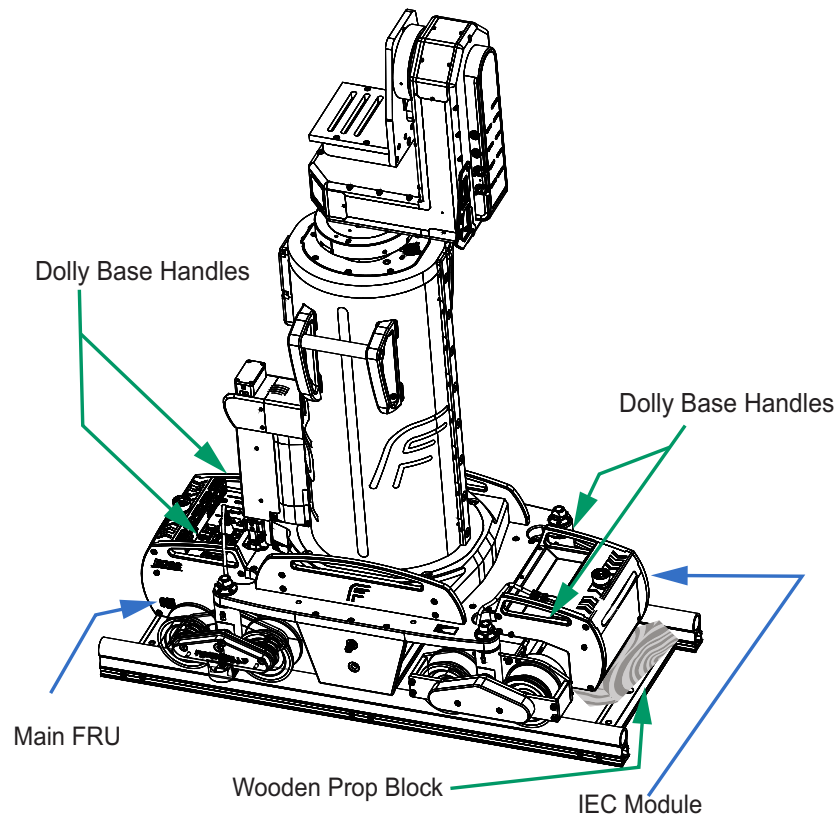

Figure 1 - Dolly Handles and Wooden Prop Block under the IEC Module
2. Have one person remove the wooden prop block from underneath the dolly's Main FRU and transfer it under the IEC Module. Refer to **Figure 1**.
With the drive wheel set successfully installed and the dolly secured on the track, you can now reattach the stability wheels. Note that only the two sliding passive wheels have stability wheels. Refer to **Figure 1** above.